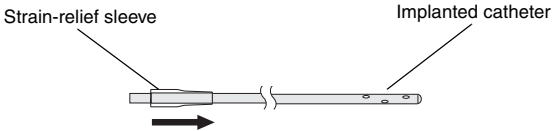

Figure 3. Sliding the strain-relief sleeve onto the implanted catheter.
1. Slide the strain-relief sleeve, small end first, onto the implanted catheter (Figure 3).